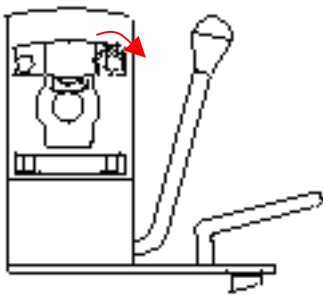

Figure 3.
1. To remove the above parts, first rotate the knifeholder latch clockwise as shown in Figure 3.